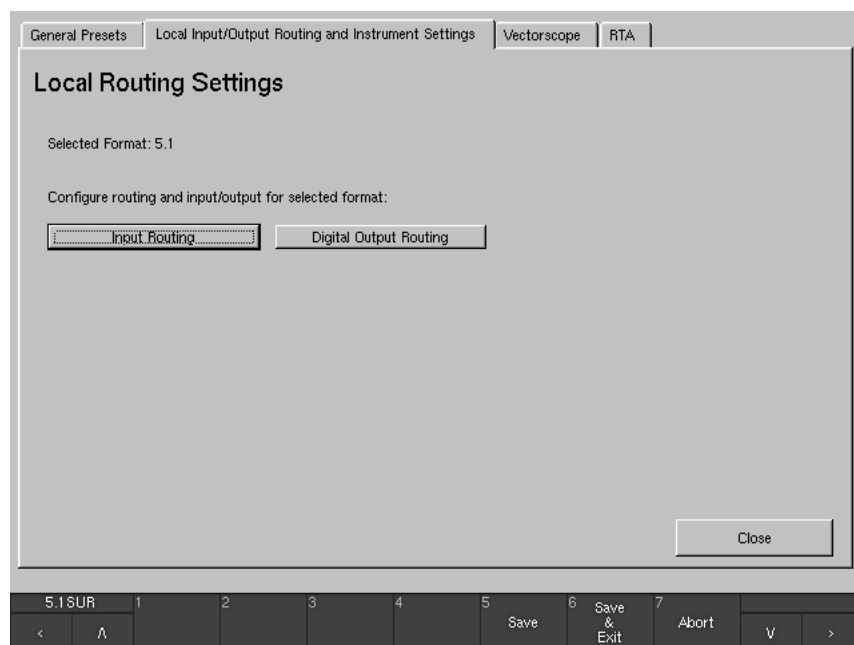

Fig. 3-10: The Local Routing Settings menu
9. Use the **Close** button to store the settings and to get back to the **Local Routing Settings** menu page (see Fig. 3-10).
See Fig. 3-10